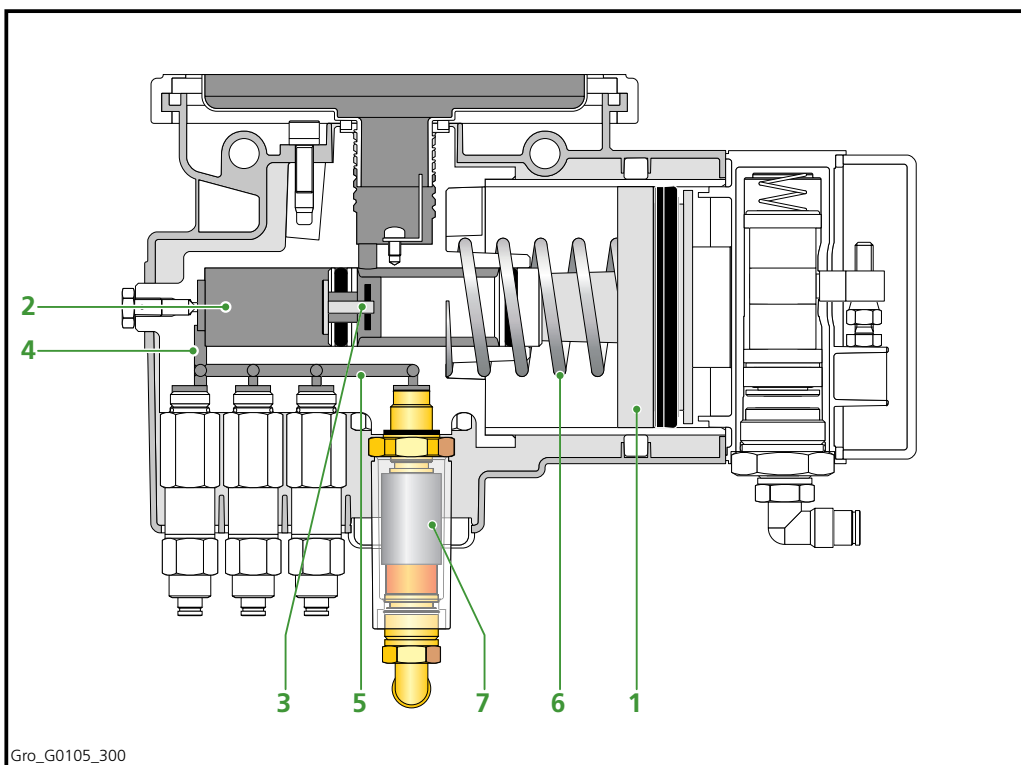

Figure 3.1 Plunger pump
When the brake-counter allows compressed air to flow from the air tank behind the air/grease piston (Figure 3.1) of the plunger pump, this piston is pushed sideways. The grease in chamber (2) is now placed under pressure, so that valve (3) is pressed against the seat and the path to the grease reservoir is closed off (the check valve). The grease now goes from chamber (2) through duct (4) to the grease chamber (5) above the metering units. The metering units now apply the grease at full pump pressure through the grease lines to the grease points. At the end of the pump phase, the air pressure behind the air/grease piston (1) drops away and spring (6) returns the piston to its starting position. At the same time, valve (3) comes away from the seat and, as a result of the underpressure in chamber (2), grease is sucked out of the grease cartridge.